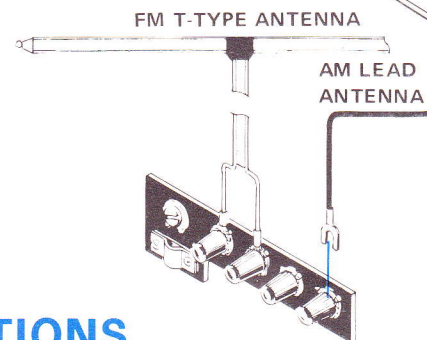

Fig. 5
- If the receiver is to be located in a wooden building and stations are nearby, use the T-type antenna which comes with the SX-828. As shown in Fig. 5, connect the feeder terminals of the antenna to the FM antenna terminals. Stretch out the antenna proper and secure it to the ceiling or a wall in such a manner that pickup is optimum, as determined by listening to the station to be received. Refer to FM RECEPTION on page 9.
- If the ferrite antenna does not give satisfying results, stretch out the AM lead antenna (vinyl-insulated wire) and connect it to the AM lead antenna terminal. See Fig. 5. Keep the other end of the antenna lead as high as possible.